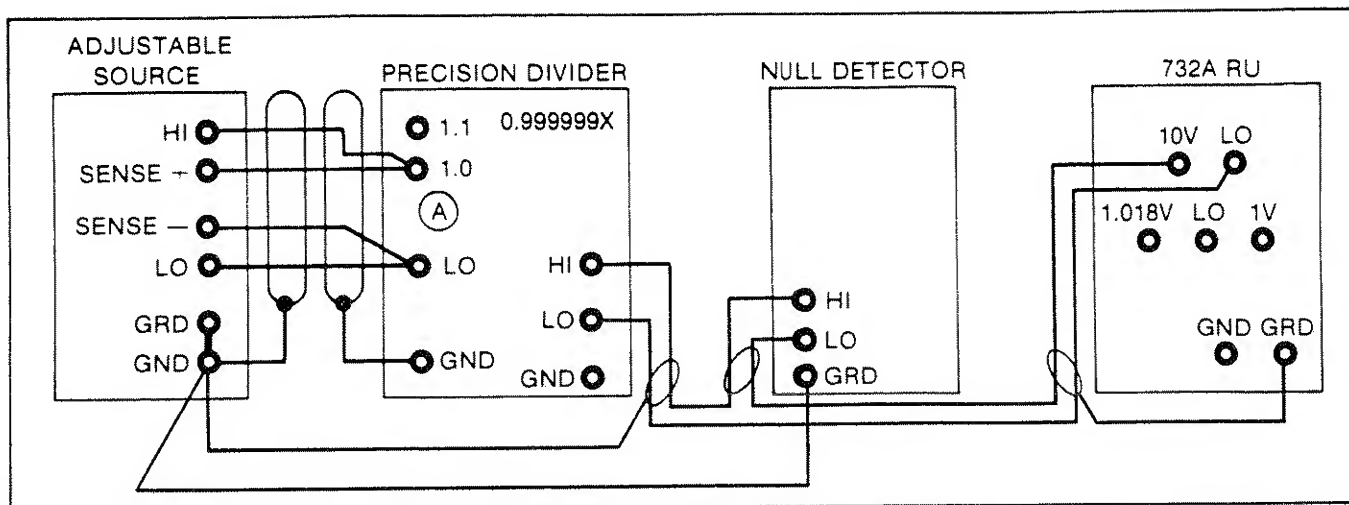

Figure 4-7. Calibration of Point A to 10V Using 732A
8. Connect the equipment as shown in Figure 4-7. Set the Precision Divider ratio switches to 0.999999X.